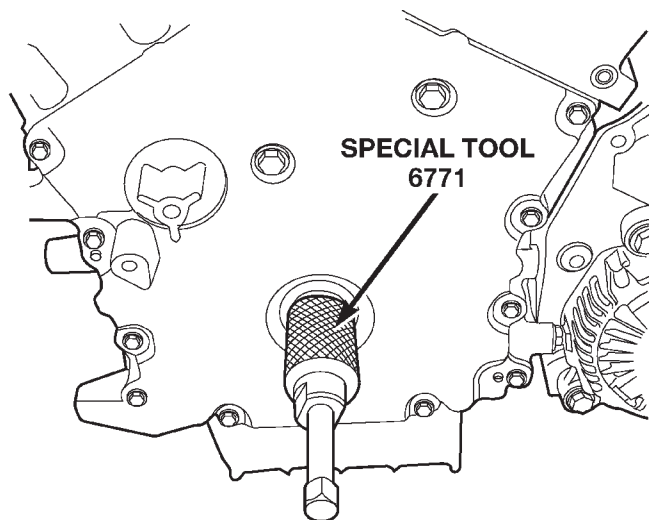

Fig. 63 Crankshaft Front Oil Seal—Removal
(1) Remove crankshaft damper. Refer to procedure outlined in this section.
(2) Insert Special Tool 8194, into crankshaft nose. Remove seal using Special Tool 6771, Remover (Fig. 63).